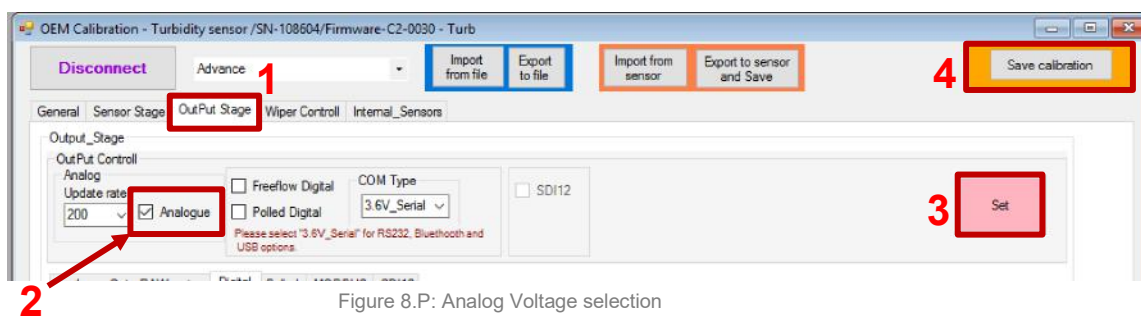

Figure 8.P: Analog Voltage selection
- Select “OutPut Stage” option (Figure 8.P: #1).